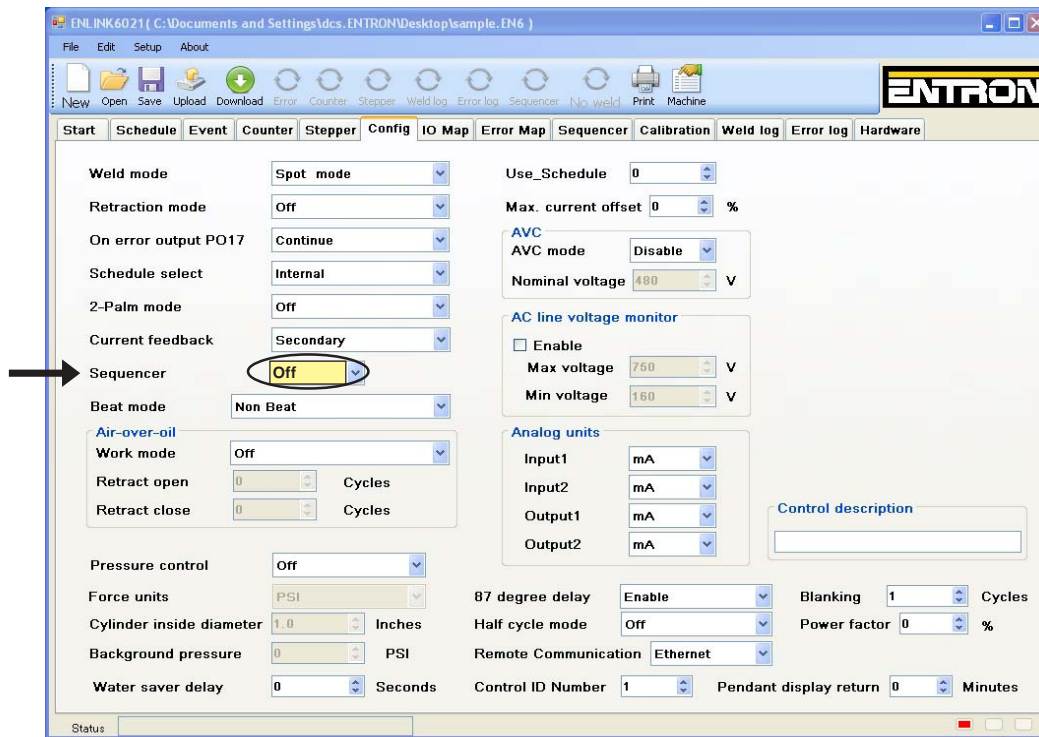

Figure 9-40. Configuration page
B. Make sure SEQUENCER function is Off on Configuration page (Figure 9-40).